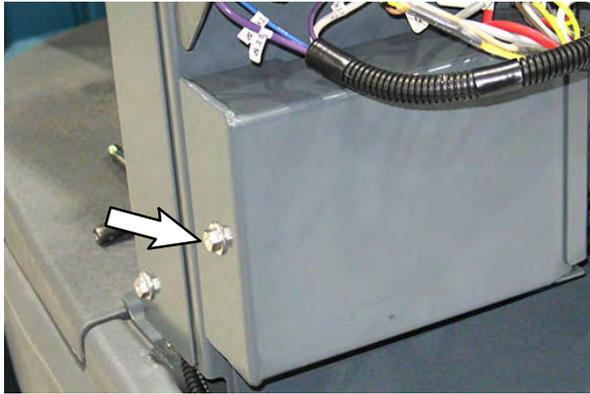

FIG. 29
19. Use one SEMS M6 hex screw (11) to install the board cover (21) onto the board mounting plate (10). (Fig. 29)